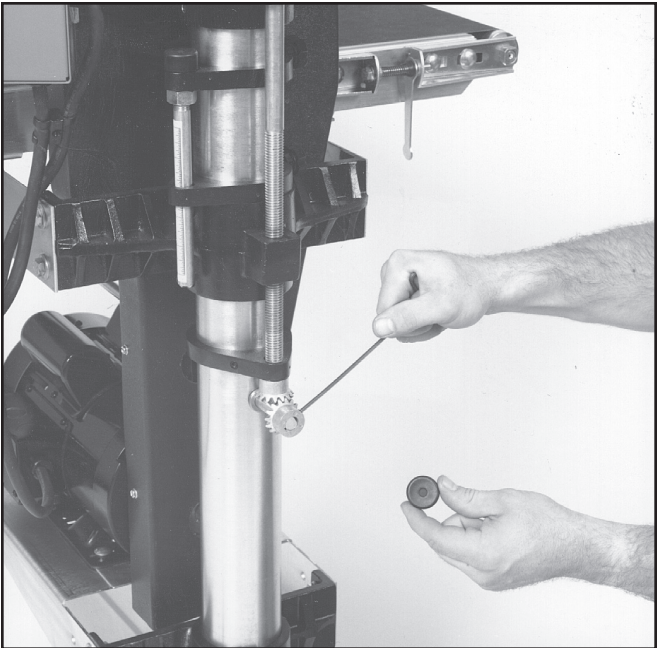

Fig. 14 Adjusting miter gears for proper mesh.
Remove the plastic cap from the miter gear (Fig. 14) on the outboard side of the machine. Loosen the set screw of the miter gear and slide it back to disengage it from the miter gear of the adjusting screw. Turn the adjusting screw handle to raise or lower the outboard side of the table so that the measurement taken above equals the inboard side of the table. After adjusting is complete, re-engage miter gear making sure that miter gear set screw is aligned with flat on cross bar shaft.
5. If the height adjustment mechanism feels rough, check the miter gear (Fig. 14) alignment. The miter gears can be adjusted on their shafts by loosening the set screws on the gears. Check and adjust so that the gear mesh is not too tight or too loose, and that the gear teeth align with the opposing gear. Note that the shaft collars located on the transfer rod should be adjusted to control the lateral movement of the transfer rod to maintain accurate miter gear alignment and mesh.